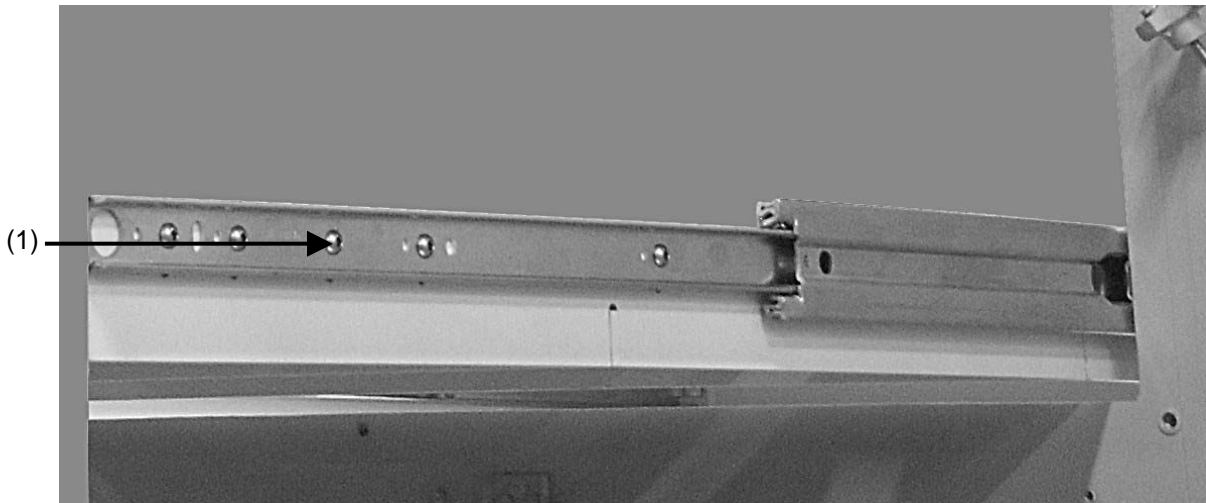

Figure 4-22. Side view of ECU.
2. Using a 5/32 allen wrench (WP 0058 00, SATS Base Tool Component List), remove a total of 14 bolts and lock nuts from ECU slide (1) (Fig. 4-22). Discard lock nuts.